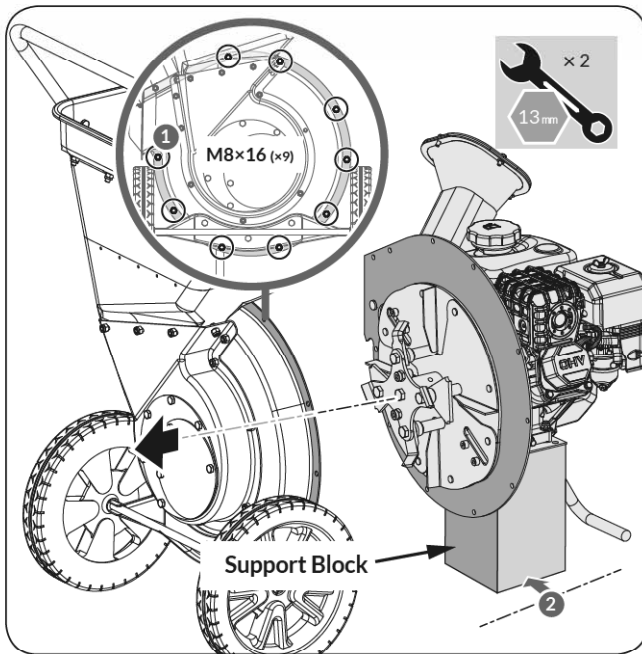

Figure 12
2. Remove the M8x16 bolts and nuts that connect the rotor housing and rotor disc seat. (See **Figure 12**)